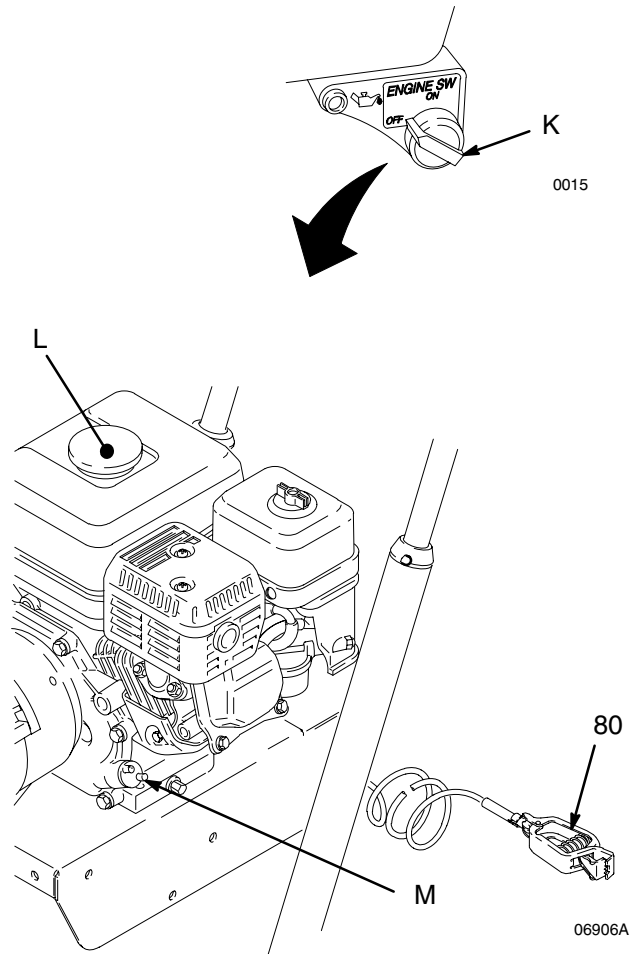

Fig. 3
3. **Check the engine oil level.** Refer to the Honda engine manual, supplied. This is a summary of the information: Remove one of the oil fill plugs (M); the oil should be almost overflowing. See Fig. 3. Add oil as necessary.
Always turn the engine switch (K) to off before refueling. (Fig. 3)
Do not overfill the tank. Make sure the gas fill cap (L) is securely closed after refueling. (Fig. 3)